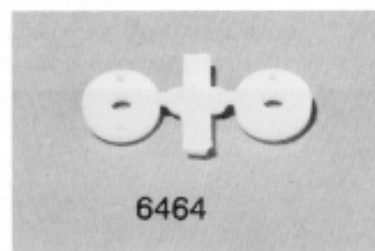

Fig. 43
□ **Figs. 43, 43A & 44** In the same bag you will find the new style #6464 #1 teflon shock pistons. The new teflon pistons were carefully molded to help eliminate the possibility of burrs on the piston edge, which interfere with smooth shock action with the shock body. To properly remove the shock piston from the tree, twist the piston up as shown in fig. 43A. Twisting down will leave a rough burr on the piston, which could reduce performance of the shock. If there are any remaining burrs **carefully** remove them with a sharp hobby or X-acto® knife.